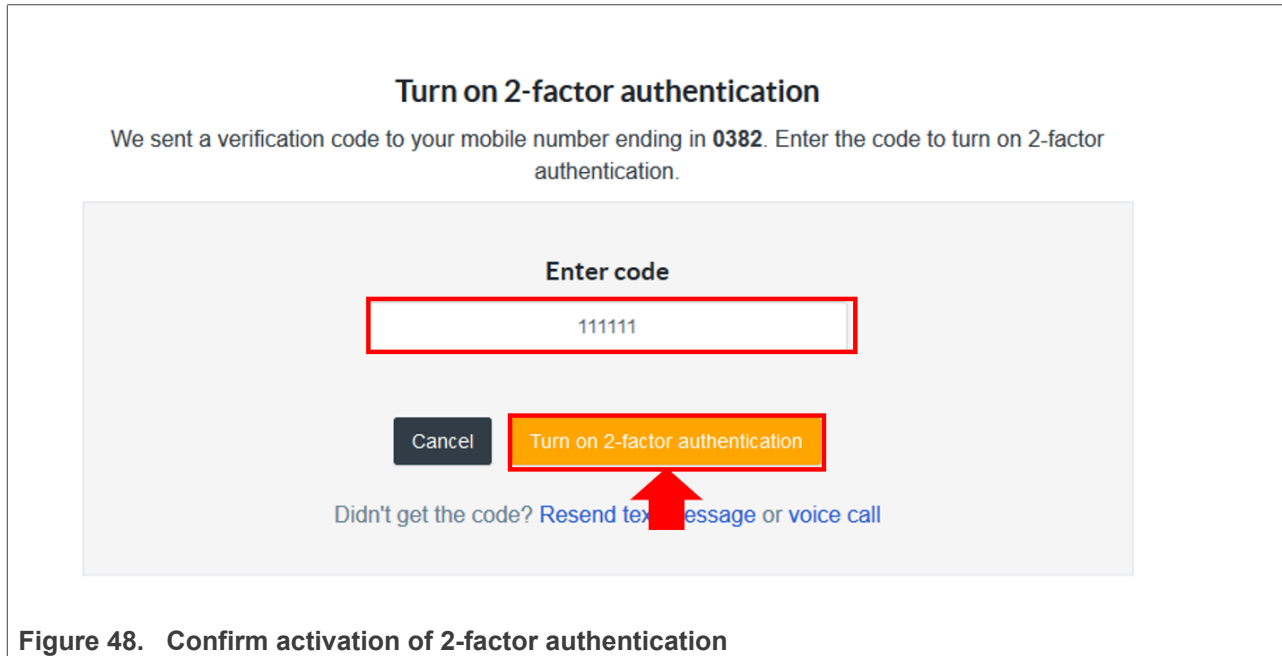

Figure 48. Confirm activation of 2-factor authentication
4. You should soon receive a confirmation code by SMS or phone call. Insert the code you just received and then click on the *Turn on 2-factor authentication* button as shown in Figure 48 to complete the activation of